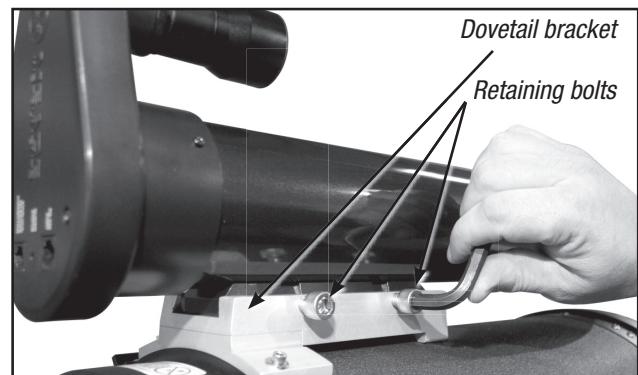

**Fig. 5.** Viewfinder collimation screws and eyepiece
**E.** Look through the viewfinder eyepiece (Fig. 5) and loosen or tighten, as appropriate, one or more of the viewfinder collimation screws (Fig.